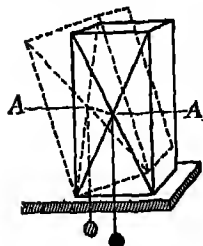

FIG. 180. Stability of a block.
**Expt. 236.** Obtain a block of wood about the same size and shape as an ordinary brick. Stand it on a flat piece of wood on a table with the greatest length of the block vertical (Fig. 180). Draw the diagonals of one face. The point of intersection of the diagonals (*A*) is not the centre of gravity of the block but it is the same height as the centre of gravity. For the purpose of this experiment we may consider it to be the centre of gravity. Drive a small nail into the block at this point, and fasten a plumb-line to the nail. Raise one side of the wood so that the block stands so that the block is tilted. Note that the plumb-line travels nearer to the edge of the block. Gradually tilt the